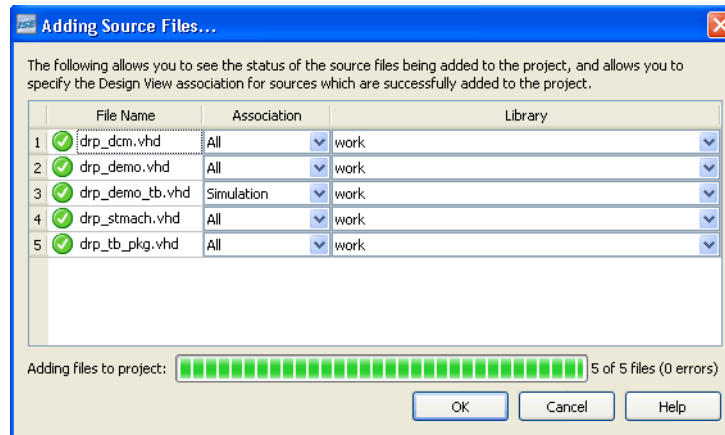

Figure 2-9: Status of Source Files and Associations
14. In the next window, make sure that the association and libraries have been properly specified for the tutorial sources. Compare your settings with the settings shown in Figure 2-9.